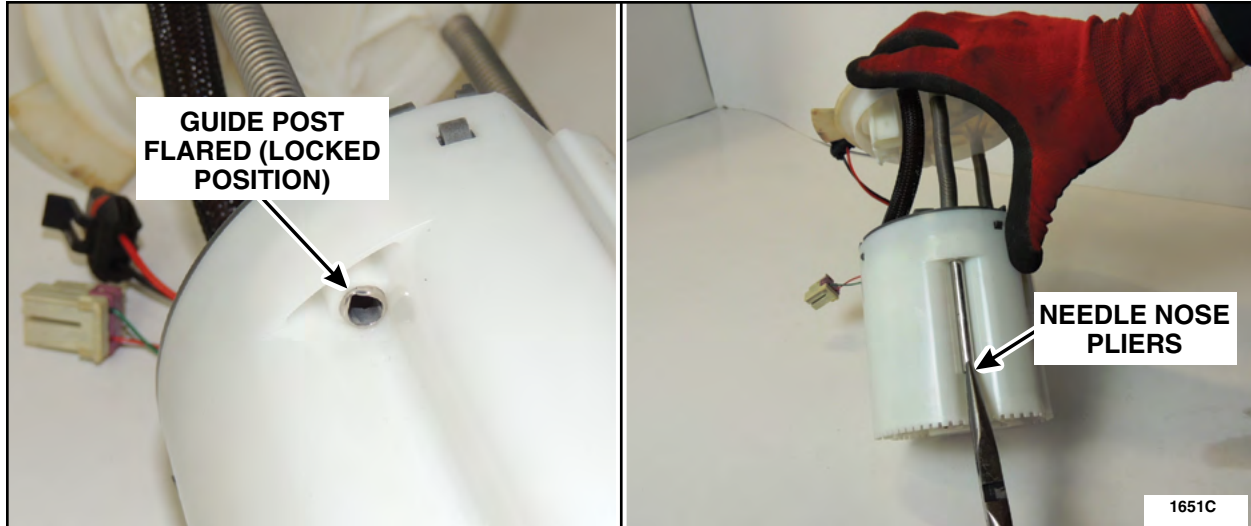

FIGURE 5
5. Using a pair of needle nose pliers, round the lower flared portion of the guide post. When the guide post on each side of the FDM has been sufficiently rounded, the upper flange can be removed. See Figure 5.
**NOTICE:** When flaring the end of each guide post, only apply enough pressure to prevent the guide post from pulling through the lower module. Using excessive pressure when flaring may cause bending of the guide post, which can limit the necessary travel of the flange. The flared guide post should look similar to Figure 5, and no more than 1/2 in (12.7 mm) of the guide post should be exposed on the bottom side of the FDM after flaring.